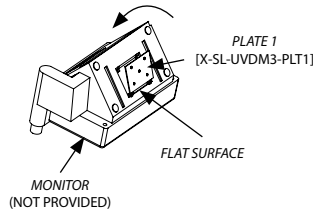

Figure 3
1. With the **FLAT SURFACE** of **PLATE 1** facing away from the **MONITOR**, align and insert the 2x tabs to the bottom 2x slots of the **MONITOR** and rotate it towards the **MONITOR** as shown in **Figure 3**.